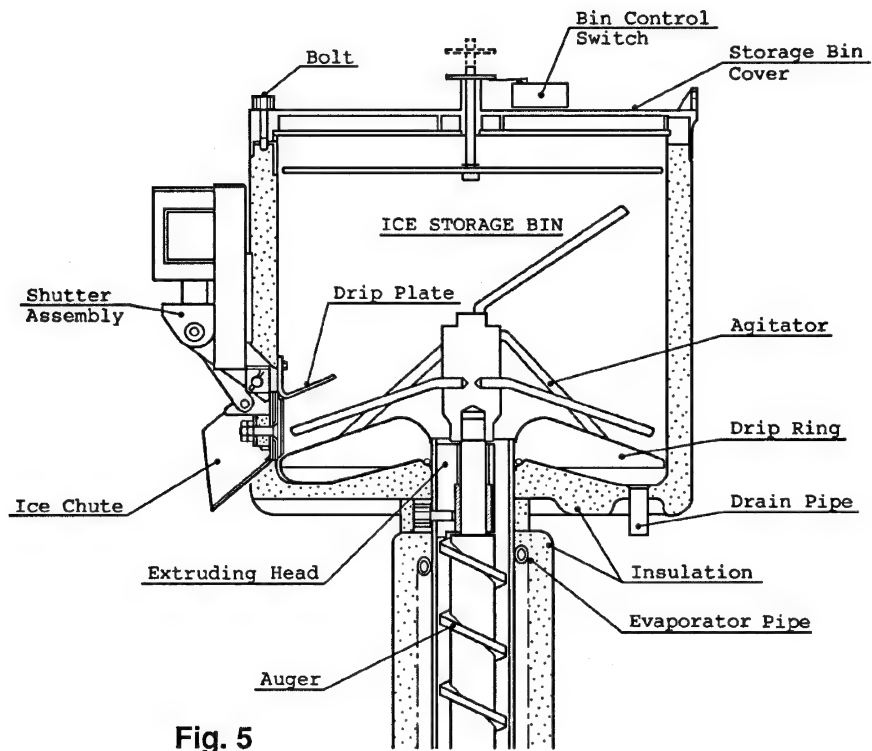

Fig. 5
- 9) Remove the Top Panel and Storage Bin Cover. See Fig. 5.
- 10) Remove the Agitator and Drip Ring. See Fig. 5.